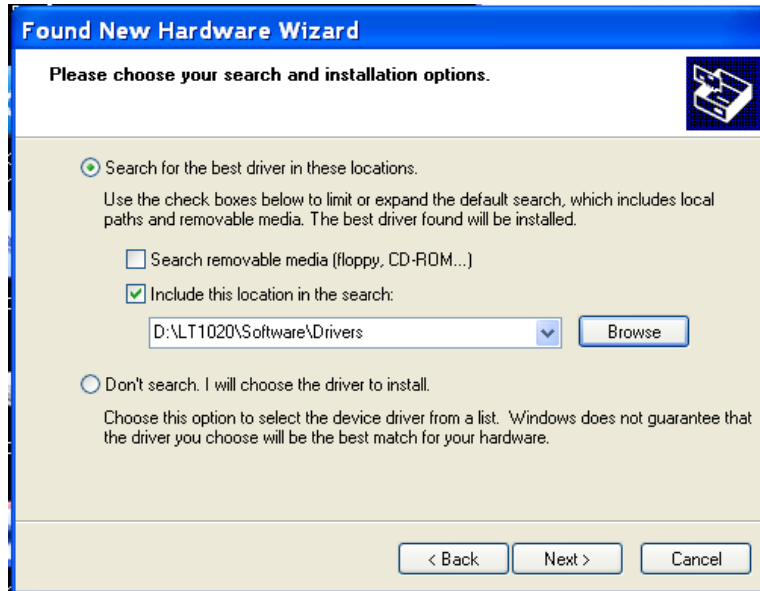

Figure 21 - Hardware Update Wizard (Step 3)
3) Select the option 'Install from a list or specific location (Advanced)'. The window as shown in Figure 21 will appear.